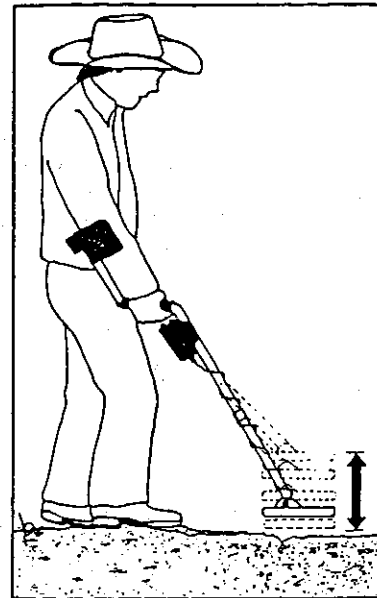

Figure 4. Automatic Ground Balancing (AGB) procedure
5. To rapidly Ground Balance, hold the RESET switch in the "Up" position while continually raising and lowering the coil between 3 and 10 cm above the ground (Fig.4), or higher on exceptionally hot ground. Initially, you will hear a signal each time the coil moves in a particular direction. After a few moments, the sound will diminish with each movement until it almost vanishes. **You have just Automatically Ground Balanced** the detector to reject ground noises at that spot. Release the RESET switch. If step 5 is not carried out, the Klondike will still automatically ground balance with use, after a few seconds.